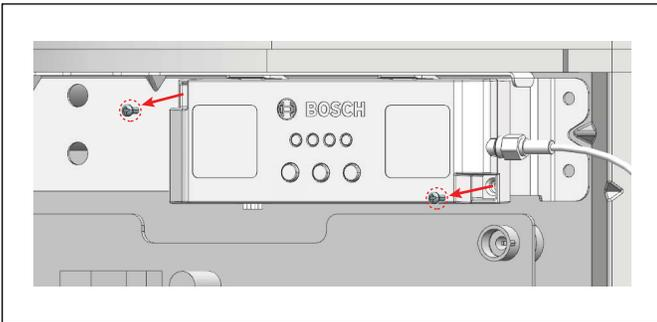

Figure 7
- Uninstall the Gateway by removing the 2 screws (Refer to Figure 7).